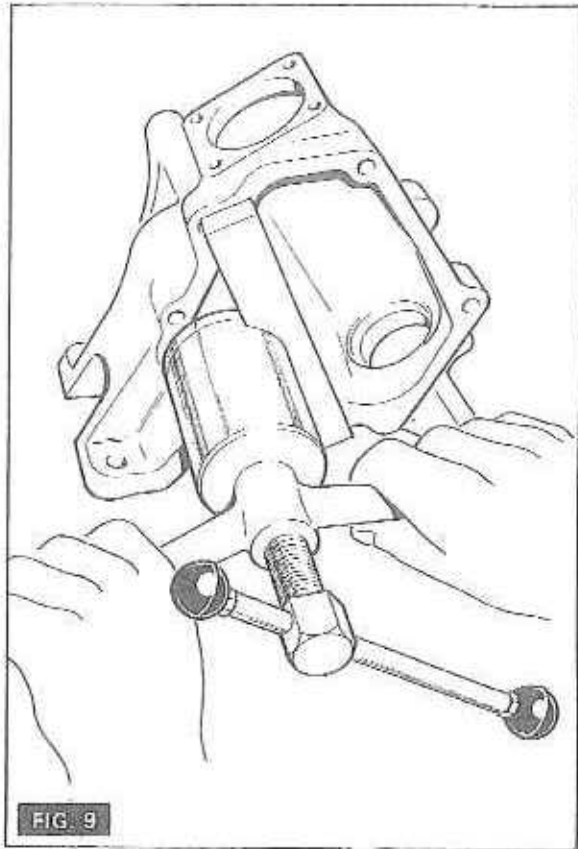

FIG 9
2. Using tool MF 263 and 263-2 (together with a bar 6" long, 1" wide, 5/8" thick and suitably radiused to suit main tool MF 263 for the inner bush only (as shown in Fig. 9), cut a thread into the bush by turning the upper handle fully clockwise.